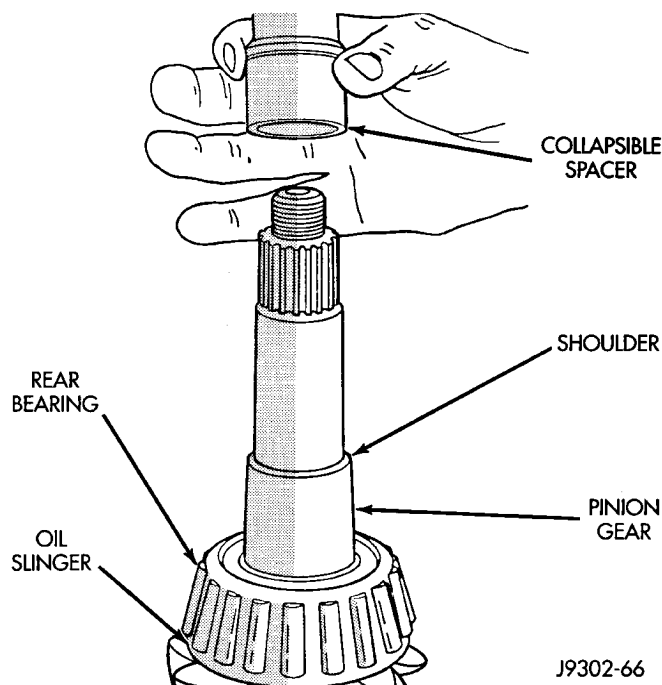

Fig. 19 Collapsible Preload Spacer
(1) Install a new collapsible preload spacer on pinion shaft (Fig. 19).
(2) If pinion gear was removed, install pinion gear in housing.